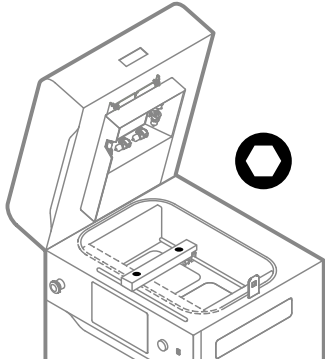

Fig. 13.16 Set the Recoater and remove the screws from the Recoater cover.
8. Using a 2 [mm] allen key, unscrew both screws on the Recoater cover and take it off (fig. 13.16).